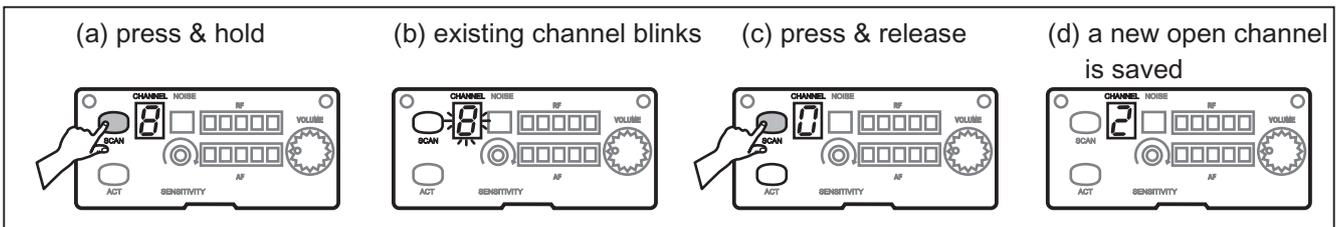

Fig. 5
(1) Scan Automatically for a Non-interference Receiver Channel:
Press and hold Channel (CH) button **A6** to perform a channel scan. Existing channel blinks to denote it is ready to accept parameter changes. During blinking, press and release Channel button to scan and stop for an open channel. This new channel is now saved. If Channel button is not pressed within six blinks, it stops blinking and reverts back to the existing channel. Fig. 5